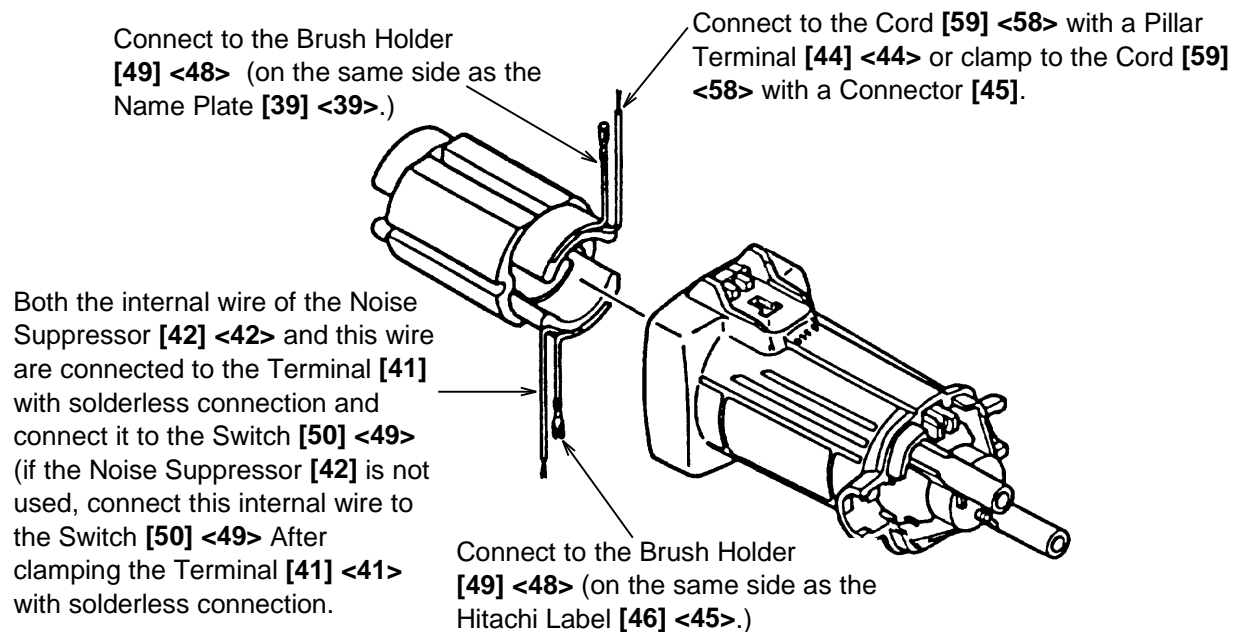

Fig. 8
- (4) When installing the Stator [13] <13> into the Housing Ass'y [38] <38>, insert it while taking care of the placement of the internal wires of the Stator [13] <13> as indicated in Fig. 8.
Connect the four internal wires of Stator [13] <13> with the parts indicated in Fig. 8